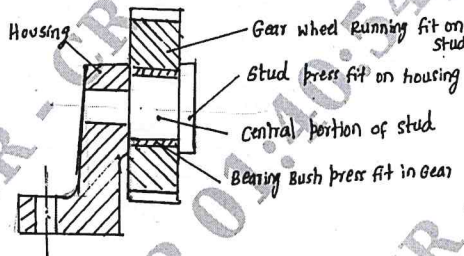

Fig.Q3(b)
b. The carrier wheel assembly shown in Fig.Q3(b) has a specific assembly requirement. The axial freedom of movement of gear wheel with bush on stud has maximum of 0.3 mm and minimum play of 0.12 mm. Allocate appropriate limits for the relevant components. Nominal length of bush is 30 mm and the nominal length of central portion of stud is 30 mm.